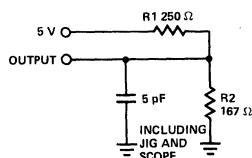

Figure 1b
3. Transition is measured at steady state High level - 500 mV or steady state Low level + 500 mV on the output from the 1.5V level on the input with loads shown in Figure 1b.
6. See Figure 1b for tHZ.